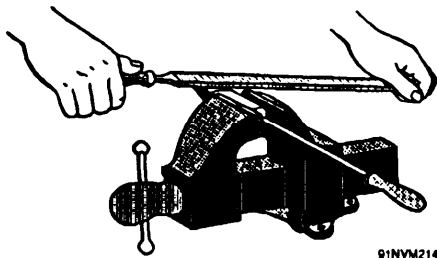

Figure 9-24.—Filing a soldering copper.
2. Clamp the bit in a vise, as shown in figure 9-24.